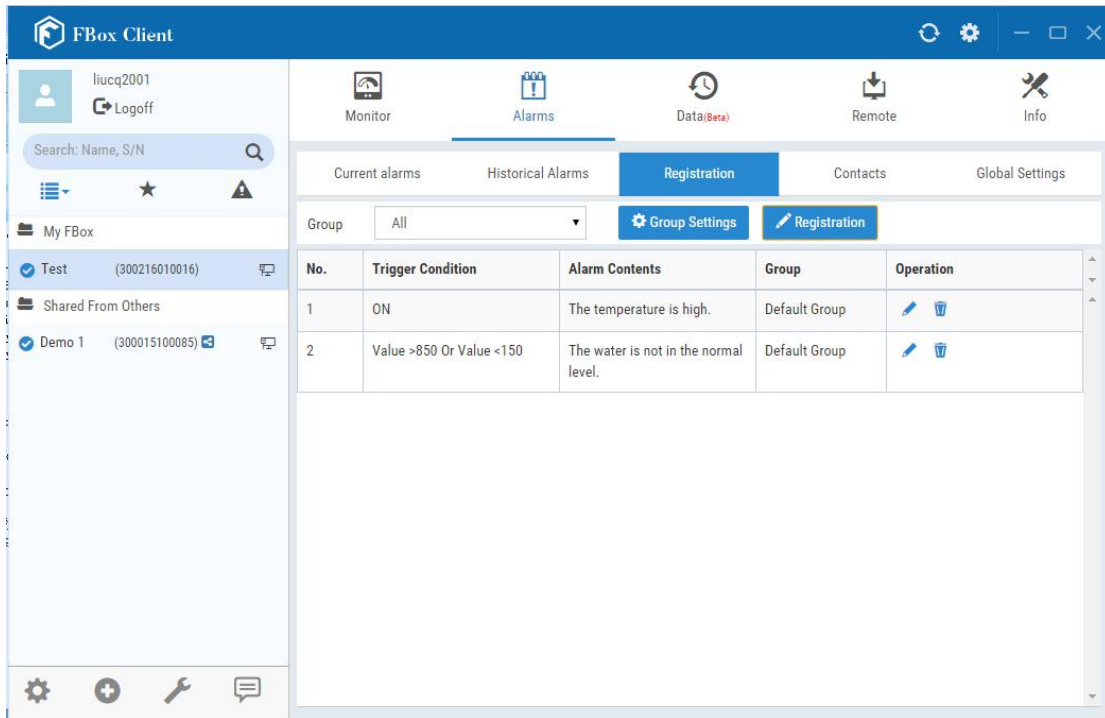

Fig. 4.8-10 View the alarm registrations
(4) After configuring the alarm and click the "OK" button in the "Add alarm definition" dialog, the alarm will be displayed in the "Registration" subtab page of the "Alarms" function page, as shown in figure 4.8-10. You can select a specific group by the dropdown list in the "Group" option so that you can display the alarm registrations by group. Or you can choose "all" in the "Group" option in order to display all the alarm registrations.